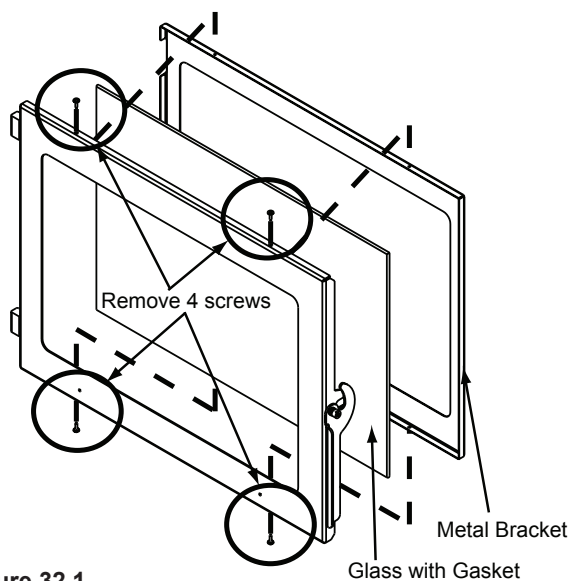

Figure 32.1
2. Using a Phillips head screw driver, remove 4 screws, 2 on the top and 2 on the bottom. Remove metal bracket and then remove the glass (**Figure 32.1**).